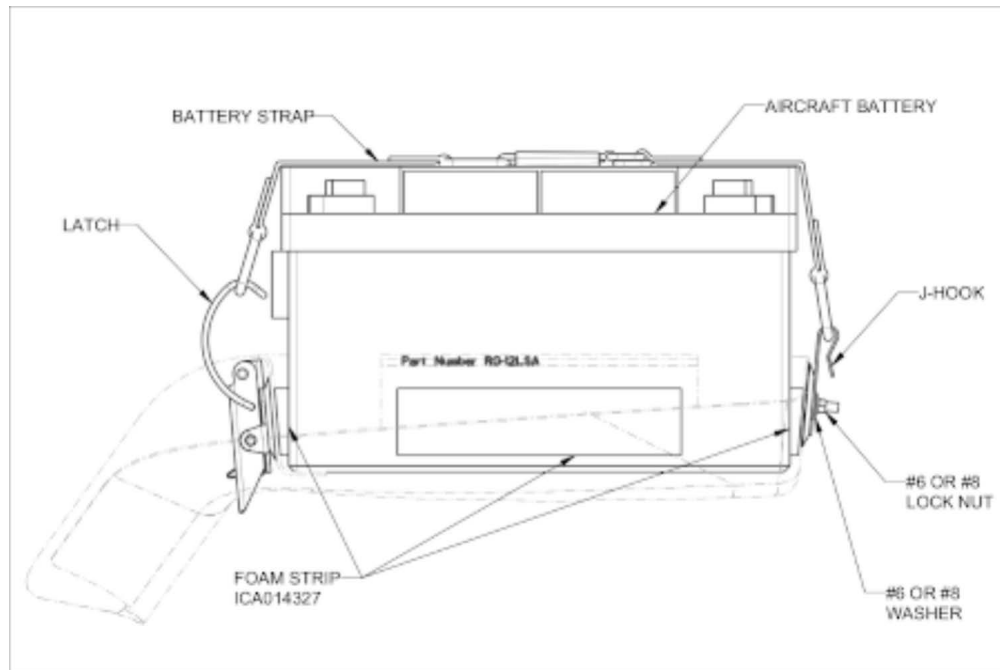
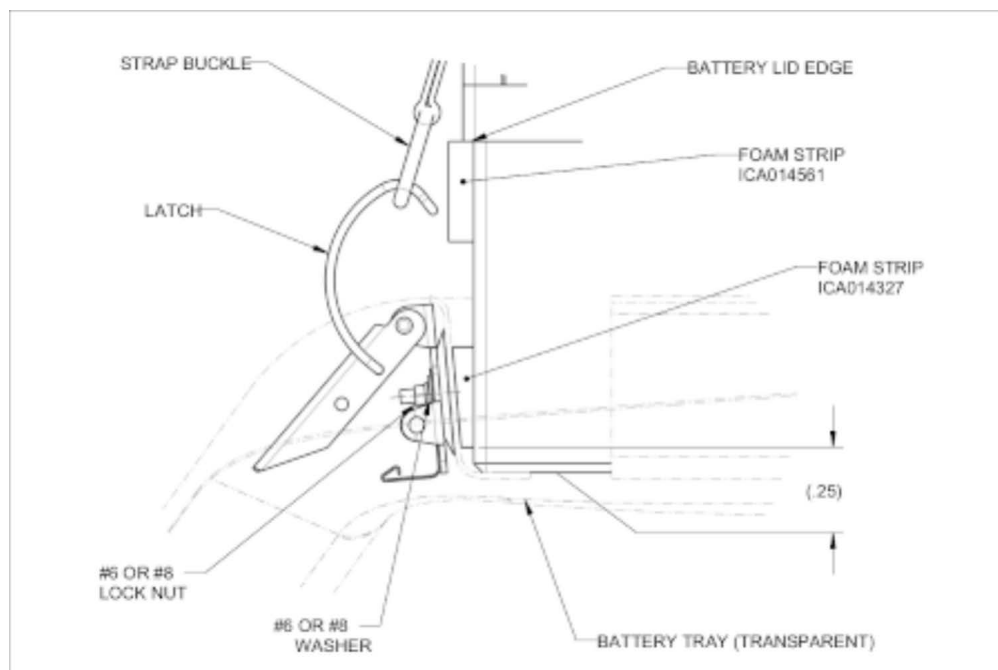

FIGURE 7-4
FIGURE 7-5
8. If replacing the Battery Strap, pull the FWD side of the Battery Strap down out of the J-Hook. See Figure 7-4.
9. If replacing the Latch, remove lock nut and washer. See Figure 7-5.
10. If replacing the J-Hook, remove lock nut and washer. See Figure 7-4.
1. If removed, secure J-Hook to the FWD side of the Battery Tray with the lock nut and washer previously removed. Apply lubricant to stud and torque #6 hardware to 7.8-9.3 in-lbs (11.1-13.1 in-lbs for #8 hardware). See Figure 7-4.
2. If removed, secure Latch to the AFT side of the Battery Tray with the lock nut and washer previously removed. Apply lubricant to stud and torque #6 hardware to 7.8-9.3 in-lbs (11.1-13.1 in-lbs for #8 hardware). See Figure 7-5.
3. If removed, secure one end of the strap to the J-Hook by pulling on the strap until it snaps into the J-Hook. See Figure 7-4.
5. Install one foam strip (ICA014327) .25 inches from the base of the Aircraft Battery and centered on each side of the Aircraft Battery as shown in Figure 7-4 and Figure 7-5.
6. Install one foam strip (ICA014561) horizontally on the AFT side of the Aircraft Battery right below the top lid as shown in Figure 7-5.
9. Position Latch into the Battery Strap as shown in Figure 7-5.